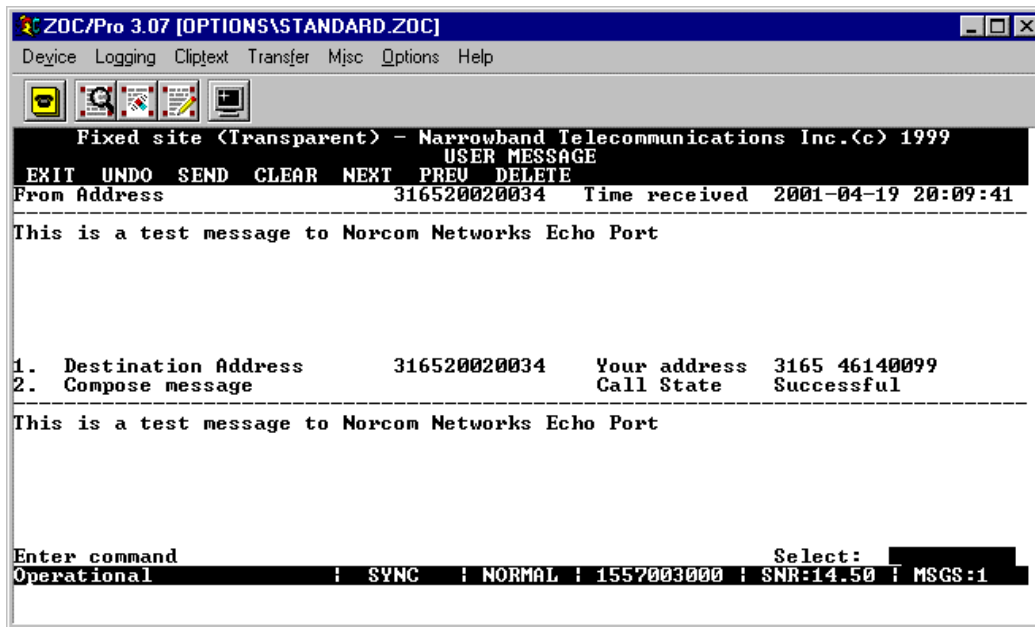

Figure 9. User Message (Receive portion) window
8. As long as the status line at the lower left reads “*OPERATIONAL | SYNC*” and the *SNR* reads above “16”, the message should be returned and displayed in the *Receive* (upper) portion of the *User Message* screen (see figure 9).